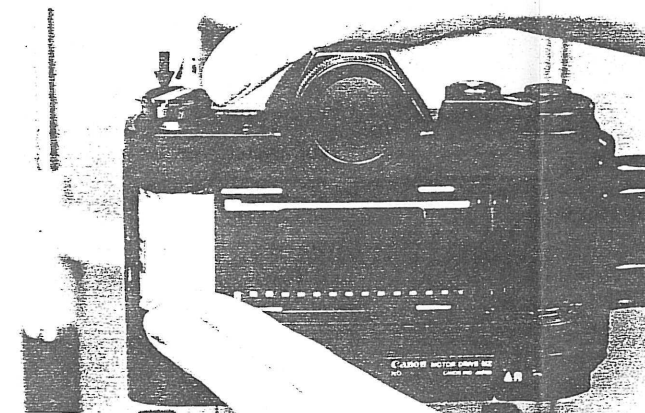

Fig. 20
3. Push the rewind crank down so that its fork is inserted into the cartridge. (Fig. 20)